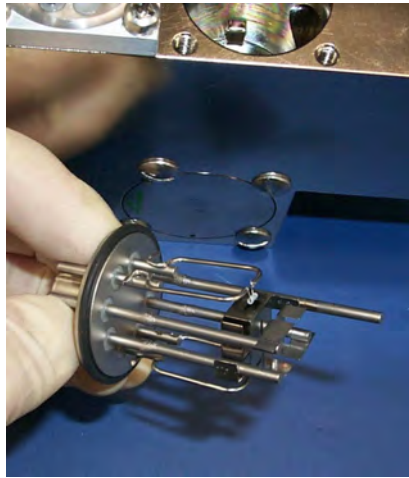
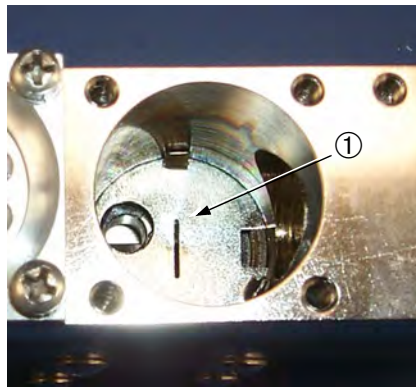

Figure 4-13 The Ion Source
Figure 4-14 Ion Source Cavity
3. Examine the ion source (Figure 4-13) and cavity (Figure 4-14) for deposits and discoloration. When examination is completed, dispose of it properly or return it to Vacuum Technologies for exchange.
4. Looking into the ion source cavity (Figure 4-14) you will see the ground slit plate ①.
8. Examine the ion source (Figure 4-13 on page 4-14) and cavity for deposits and discoloration. If either is discolored or dirty contact Vacuum Technologies Customer Service at 1-800-8VARIAN.